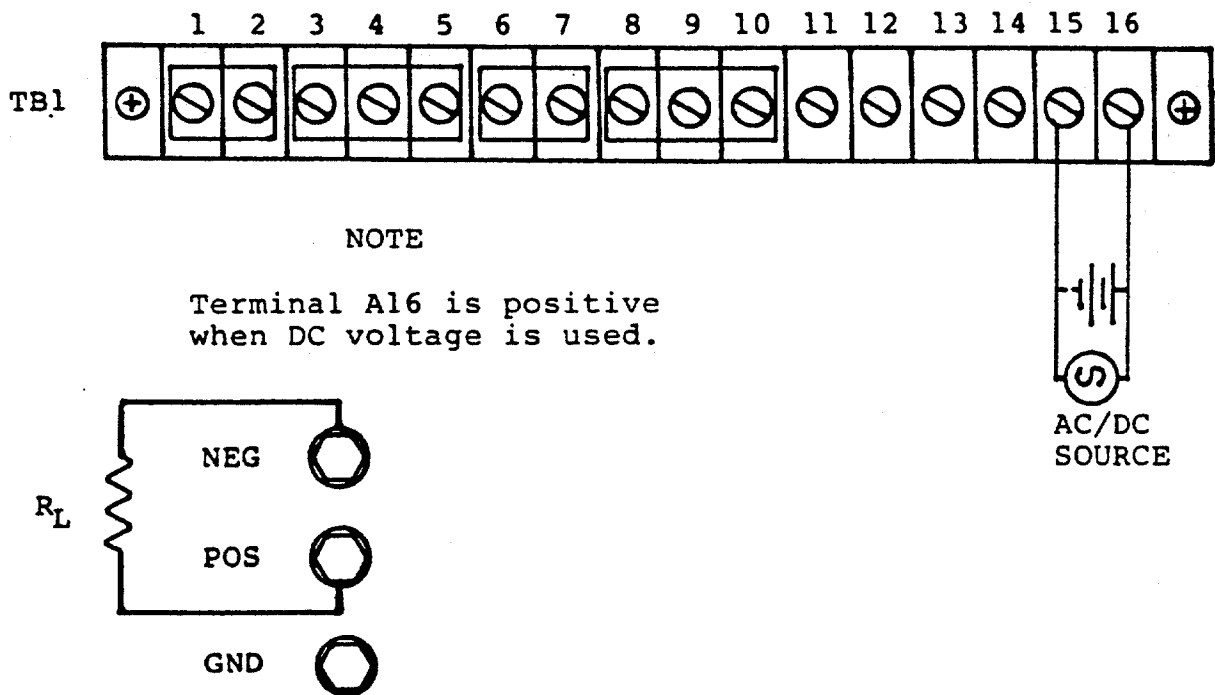

Figure 3-9. Remote On/Off Operation Using AC/DC Voltage Source
(2) Remote on/off control may be accomplished by an external AC voltage of 12 to 240 VAC or an external DC voltage of 6 to 120 VDC. See Figure 3-9 for strapping requirements.